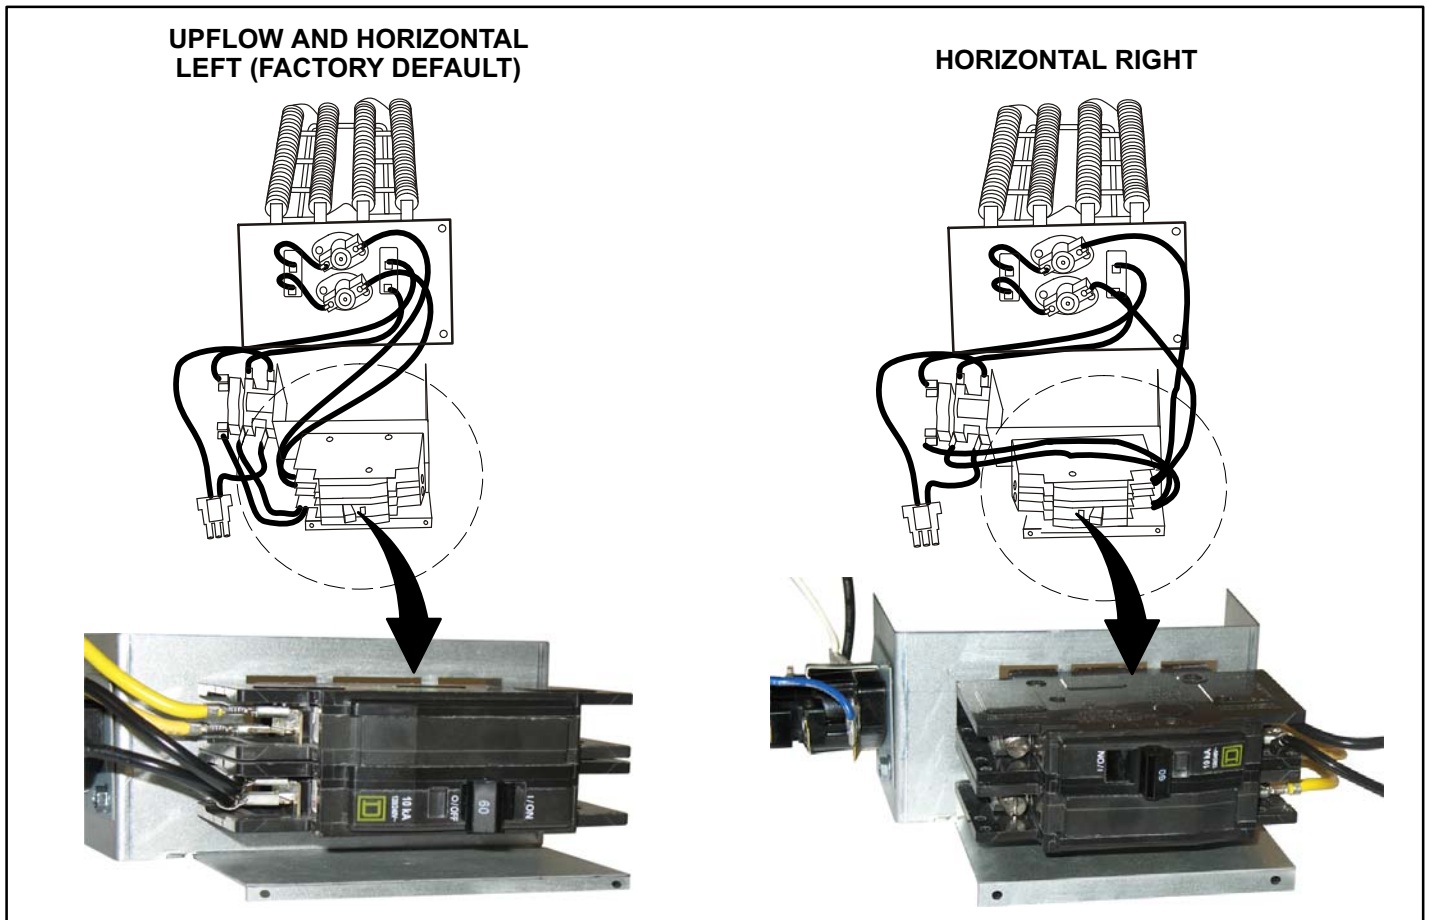

Figure 16. Circuit Breaker Orientation
1. The factory default configuration for the two circuit breakers is horizontal left-hand discharge which requires no change (see figure 16). To change the applicable circuit breakers orientation for right-hand discharge, proceed to step 2.
3. Flip the breaker so that the wires attached to the circuit breakers terminals are on the left side (see figure 16).